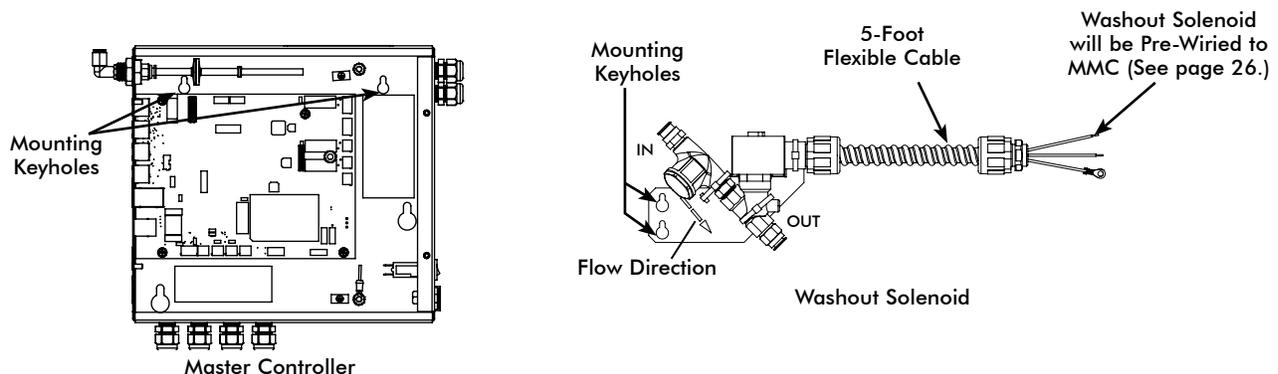

Figure 8. MOJAVE Master Controller and Washout Solenoid Optional Mounting
- C. SEWER DRAIN** - Provide a drain for the removal of waste liquids from the **MOJAVE** tank. Use an open drain pipe (1 1/2 inch P-Trap with 1 inch air gap or floor sink) or a closed vented drain. See Figure 8, sheet 2.